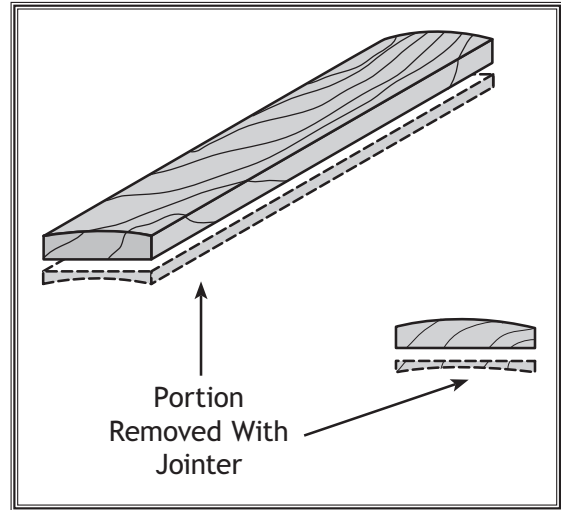

Figure 31. Face joint the concave side of cupped workpiece before milling.
- Each workpiece must have at least one flat surface to slide along the planer/moulder table. To create a flat surface, pass the workpiece over a jointer (**Figure 31**). Defects such as twisting, loose knots or severe cracks may make the stock unusable.